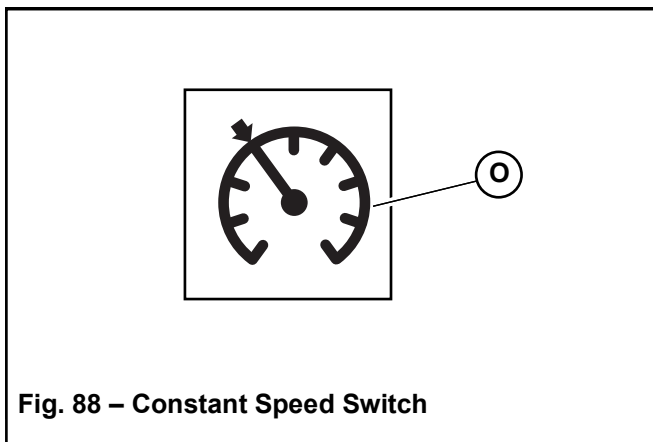

Fig. 88 – Constant Speed Switch
3. Press and hold the constant speed switch (O, Fig. 88) until the constant speed icon is displayed on the multi-function display.